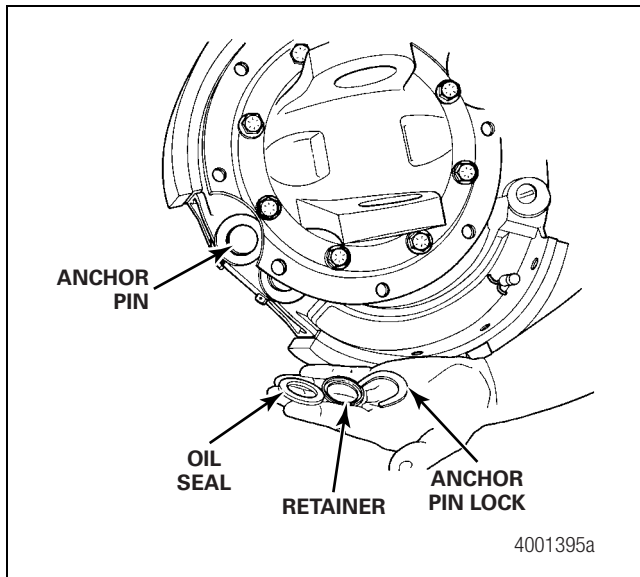

Figure 3.25
7. Remove the lock that secures the shoe to the anchor pin. Remove the oil seal retainer and the oil seal from the anchor pin. Figure 3.25.